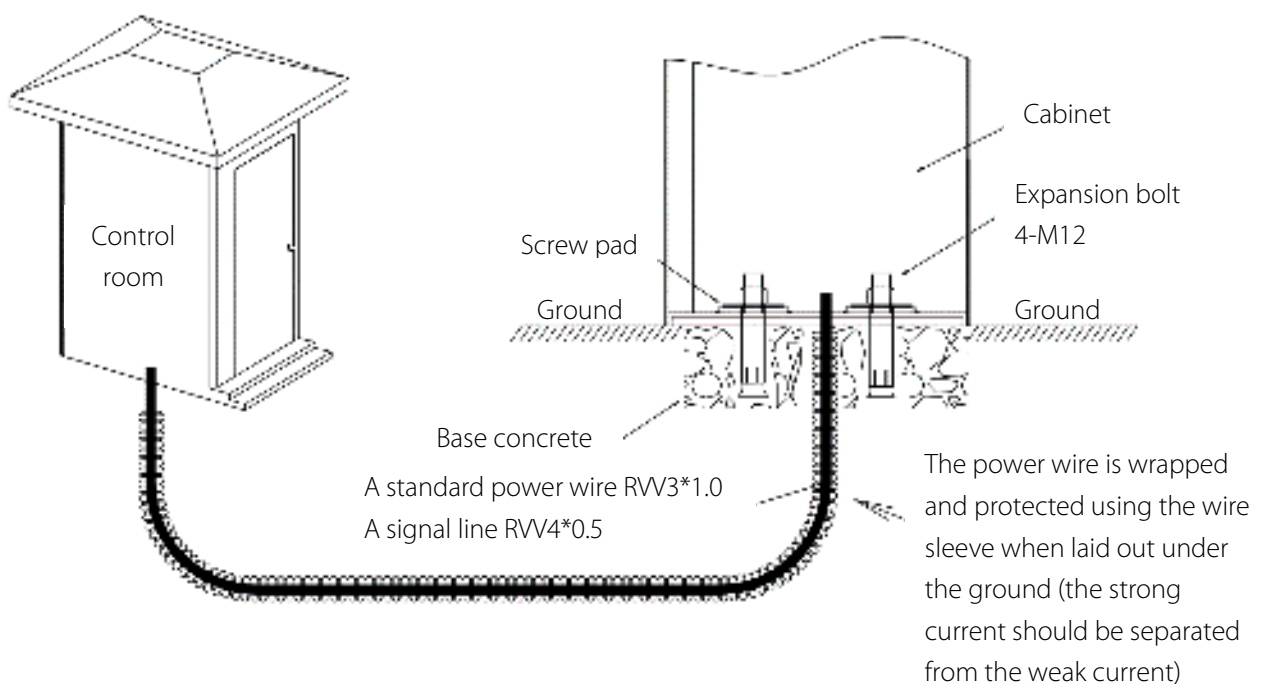

Figure 2-1 Cable embedding
- 3) Use a tool to open a cable tray on the ground, see Figure 2-1.